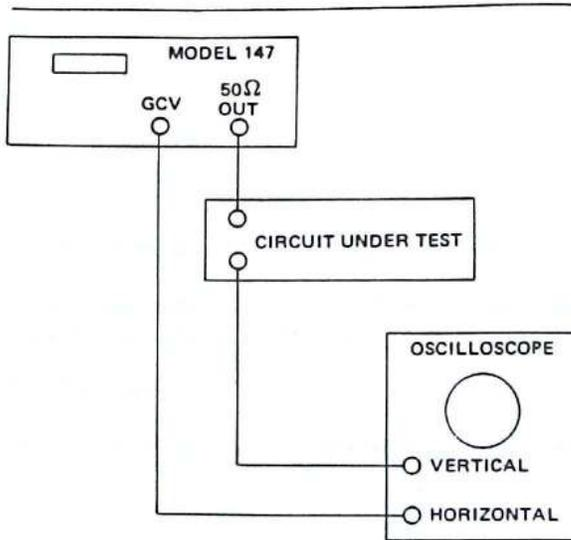

Figure 2-8. Frequency Response Test Using an Oscilloscope in the X-Y Mode
These modes together with the GCV output can be used to perform frequency response tests and drive an X-Y recorder or oscilloscope for display of the frequency response. As an example, Figure 2-8 shows a circuit under test which is to be swept and the frequency response of the circuit displayed
1. Terminate the 50Ω output with 50Ω. Setup as in Figure 2-8 or 2-9 except bypass the circuit under test for this setup procedure.
12. Insert the circuit to be tested as in Figures 2-8 or 2-9 and observe the frequency response characteristics shown on the oscilloscope or recorder.